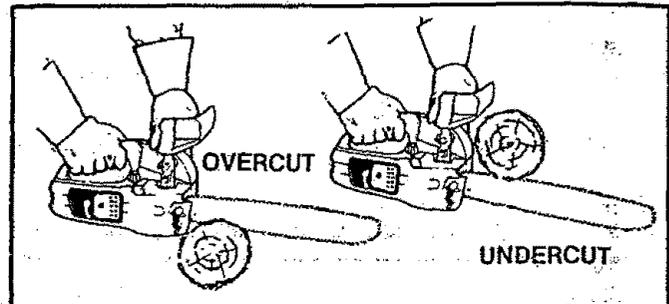

Figure 33
- Two types of cutting are used (Figure 33):